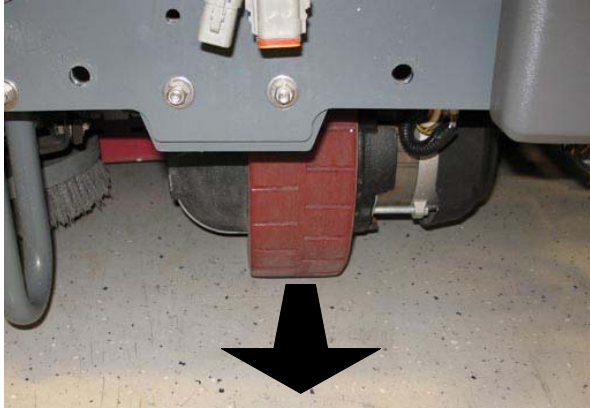

FIG. 61
22. Straighten the front wheel so it is pointing forward. (Fig. 61)